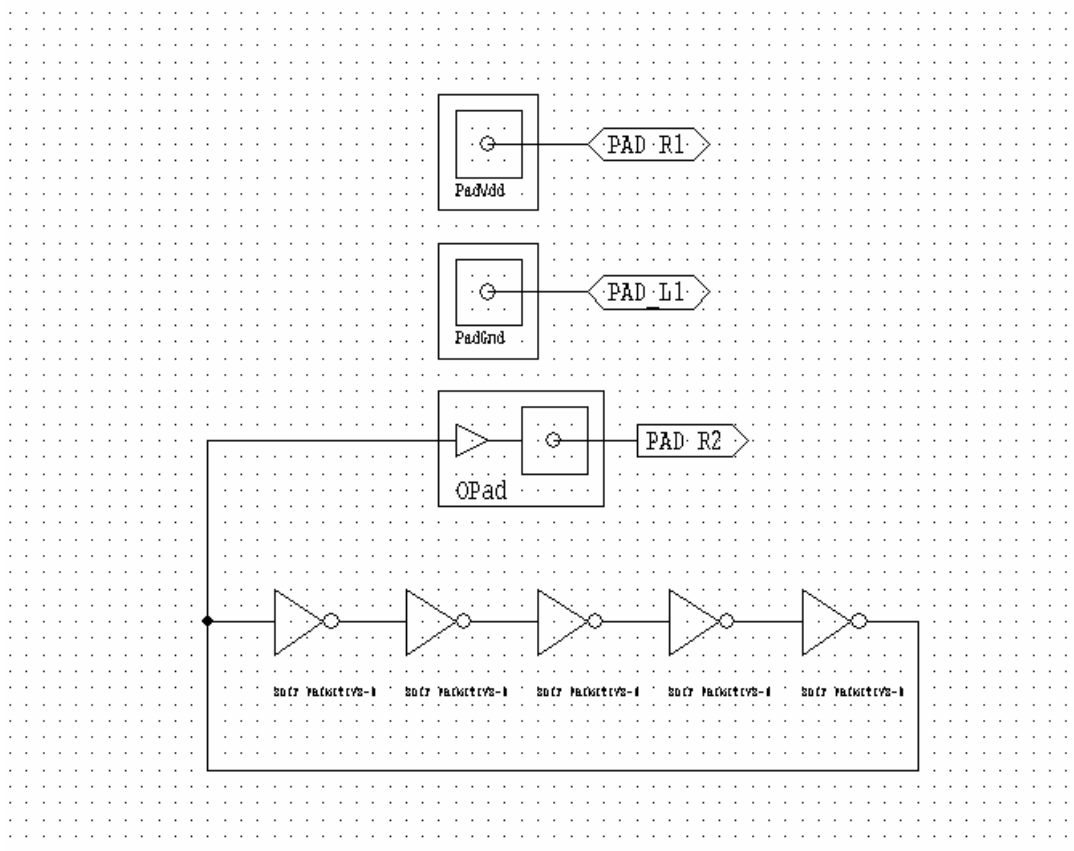

Figure 30. Ports Placed
4. We also need connections for Vdd and Ground, as well as an output port to monitor the ring oscillator. To create these, reopen the Symbol Browser and place the parts PadVdd, PadGnd, and PadO. Note that when you try to place these parts on the schematic, S-Edit will complain that there is a name conflict – just select “Don’t copy colliding modules” and click Proceed. After placing these parts, the schematic should look like Figure 30.